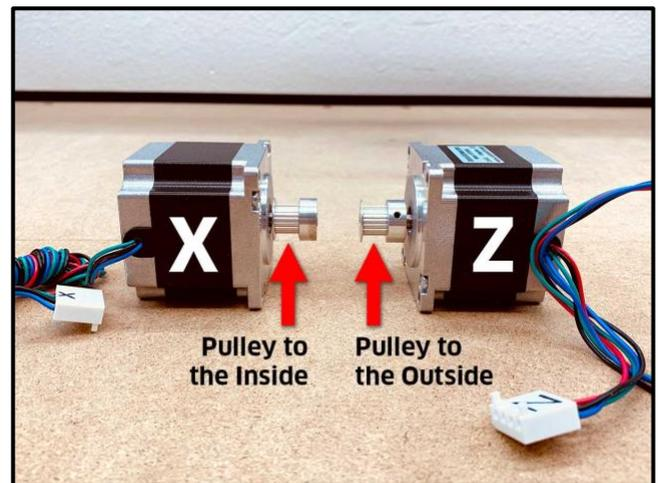

Figure 7
**WARNING:** Do not mix up the X- and Z-motors. The orientation of the X-motor's drive pulley on the drive shaft is very important for Z-Plus assembly. See *Fig. 7.*